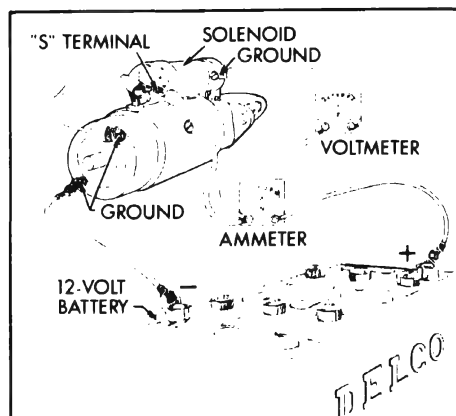

Figure 10-30—Amperage Test of Solenoid
1. Remove screw from solenoid motor terminal and bend field leads slightly until clear of terminal. Then ground solenoid motor terminal with a heavy jumper wire. See Figure 10-30.